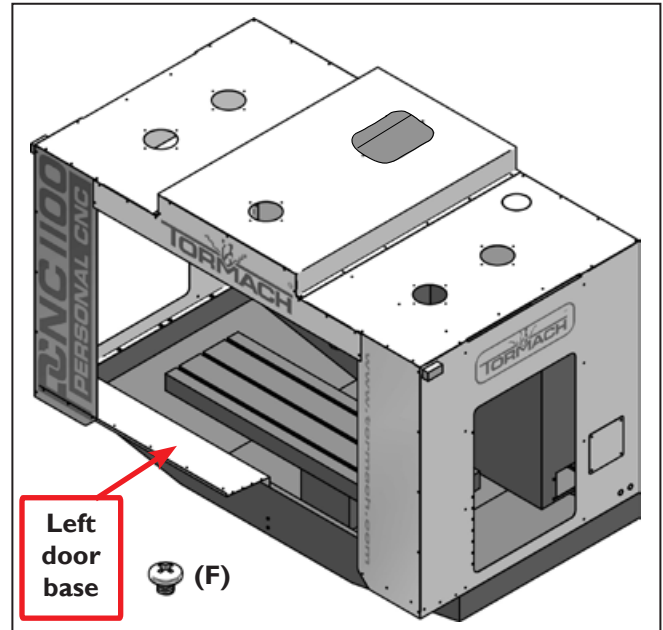

Figure 17
43. Place the Left Door Base (E.19) to where the large flange is inside of the chip pan (see **Figure 17**). Loosely fasten with (F) screws along the front left and left side panels.
45. Once the holes are drilled and tapped, fasten with (C) screws.